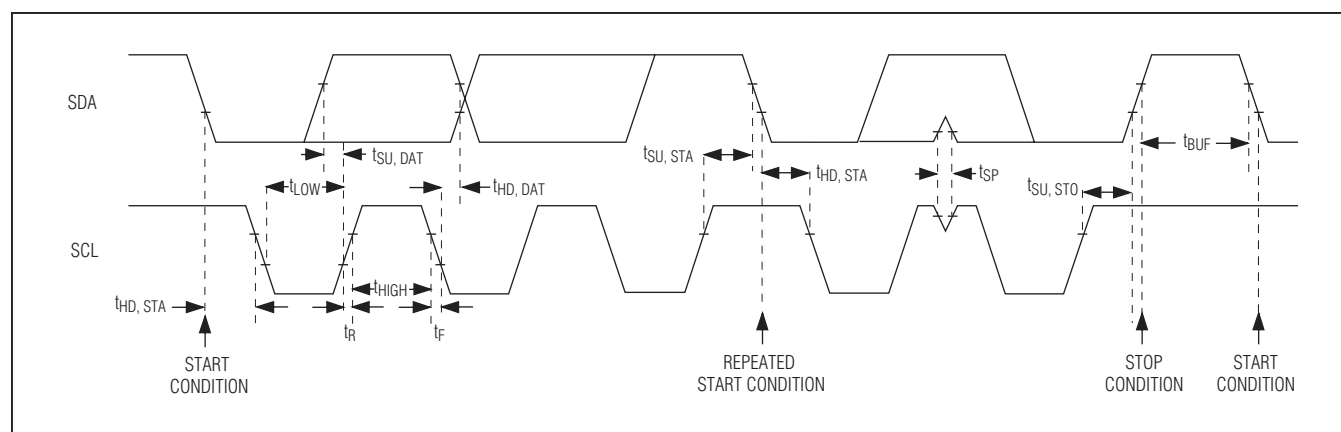

Figure 4. 2-Wire Interface Timing Diagram
The device features an I²C/SMBus™-compatible, 2-wire serial interface consisting of a serial data line (SDA) and a serial clock line (SCL). SDA and SCL facilitate communication between the device and the master at clock rates up to 400kHz. Figure 4 shows the 2-wire interface timing diagram. The master generates SCL and initiates data transfer on the bus. A master device writes data to the device by transmitting the proper slave address followed by the register address and then the data word. Each transmit sequence is framed by a START (S) or Repeated START (Sr) condition and a STOP (P) condition. Each word transmitted to the device is 8 bits long and is followed by an acknowledge clock pulse. A master reading data from the device transmits the proper slave address followed by a series of nine SCL pulses. The IC transmits data on SDA in sync with the master-generated SCL pulses. The master acknowledges receipt of each byte of data. Each read sequence is framed by a START